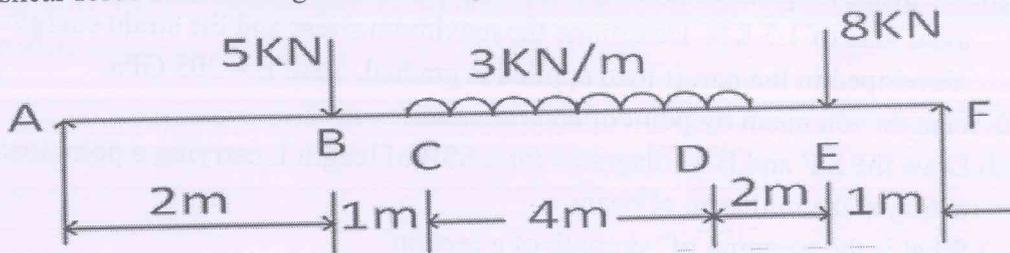

Fig.1
- b) A beam of 10-m length is acted upon by forces and a couple as shown in fig 1. Draw the shear force and bending moment diagrams.
2. A steel bar is subjected to loads as shown in fig. 1. Determine the change in length of the bar ABCD of 18 cm diameter.  $E = 180 \text{ kN/mm}^2$  [3]
Assuming Poisson's ratio as 0.25, Find in terms of the modulus of Elasticity  $E$  of the material, the strains in the direction of each force, If  $E = 2.0 \times 10^5 \text{ N/mm}^2$ , Find the values of the modulus of rigidity and bulk modulus for the material of the block. Also, calculate the change in the volume of the block due to the applications of the loading specified in Fig.1.